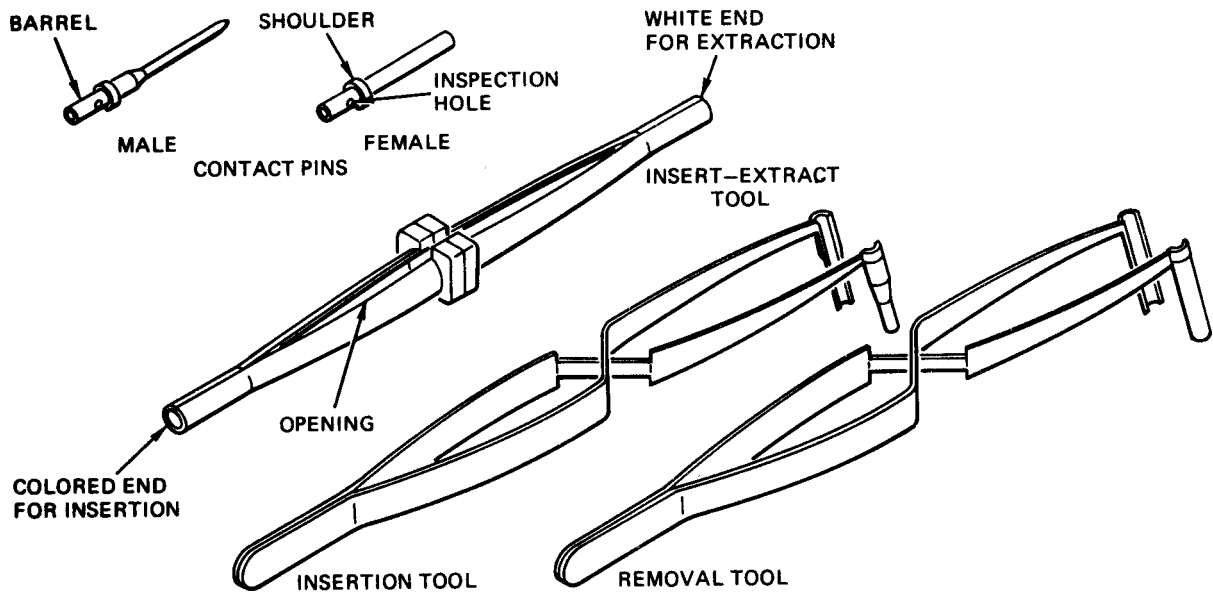

Figure 4-25. Contact Pins and Insertion and Removal Tools
(1) **Tools and contact pins.** Refer to table 4-24 for correct size insertion and removal tools. The contact pins and two types of insertion and removal tools are shown in figure 4-25.